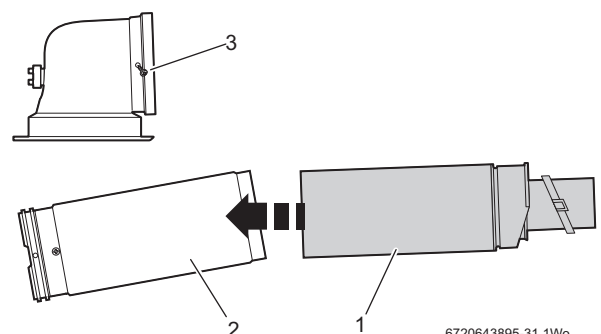

Fig. 27 Reducing the standard terminal
- ▶ If the required length is less than 350mm the standard telescopic flue can be modified, refer to fig. 27.